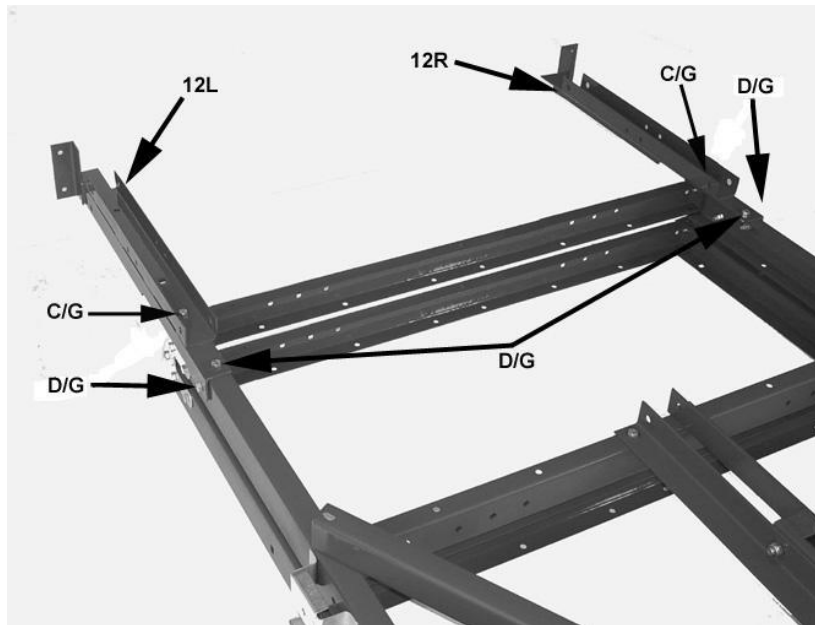

Figure 4-1
1. Install left spring hanger (12L) and right spring hanger (12R) to rear frame rails with M10 x 30 bolts (C), M10 x 20 bolts (D) and M10 nylon lock nuts (G) as shown. See figure 4-1.